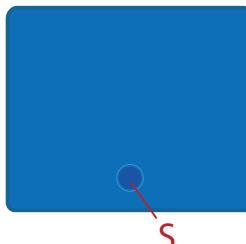

Fig.2/
- SW (SW1): Switch/push-button input terminal (controlling O (01))
- O (01): Load circuit output terminal (1)
- S: S button (Fig.2)